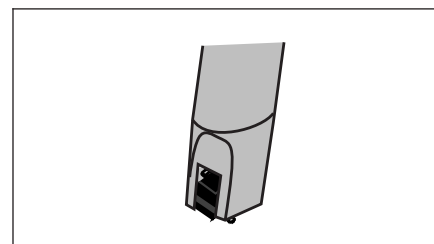

Figure 4 Melt All Joints
8. Confirm solder melt of ALL joints and lift component from PCB. (See Figures 4 & 5.) (Surface tension of the tip should lift the component from the board. If this does not occur, use of tweezers to lift the component is optional.)